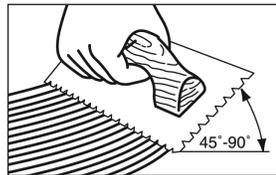

Figure 13
- Hold trowel at a minimum 45° angle (Figure 13) firmly against the subfloor to obtain a 50-60 ft.² (4-5.5 m²) per gallon spread rate (20-30 ft.² per gallon for Bruce® Summit Select spread with listed trowels) The trowel will leave ridges of adhesive and very little adhesive between the ridges. This method will allow you to still see the chalk lines between the ridges and provide the recommended spread rate.